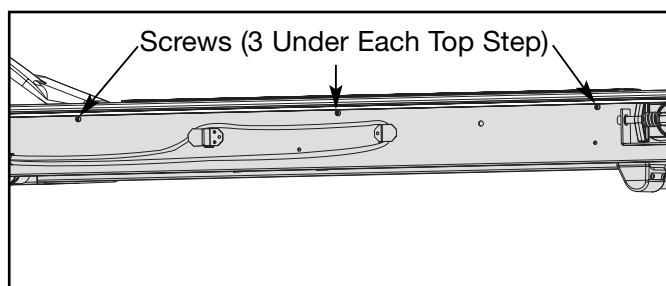

Figure 4
- A. Using a Phillips head screwdriver, remove the three screws that hold each top step in place. See Figure 4.
- A.** Place each top step in position. See Figure 4.
- B.** Using a Phillips head screwdriver, tighten the three screws that hold each top step in place. See Figure 4.